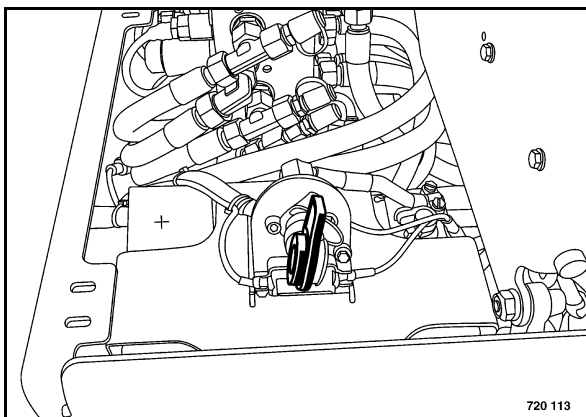

Fig. 67
- Switch off and pull out main battery switch 1 (Fig. 67).
If the power pack of the remote control is to be re-charged via the remote control cable, the main battery switch (Fig. 67) must be switched on.